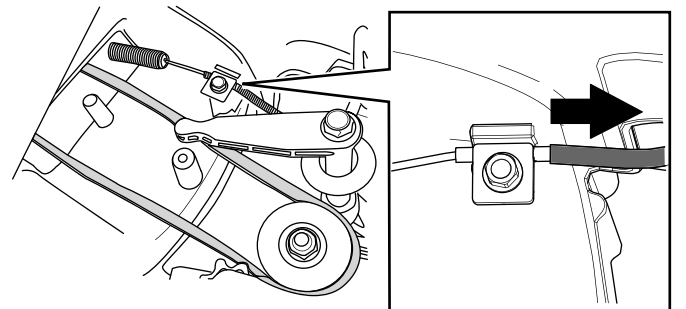

Figure 33
6. Pull the cable jacket to remove slack (Figure 33).